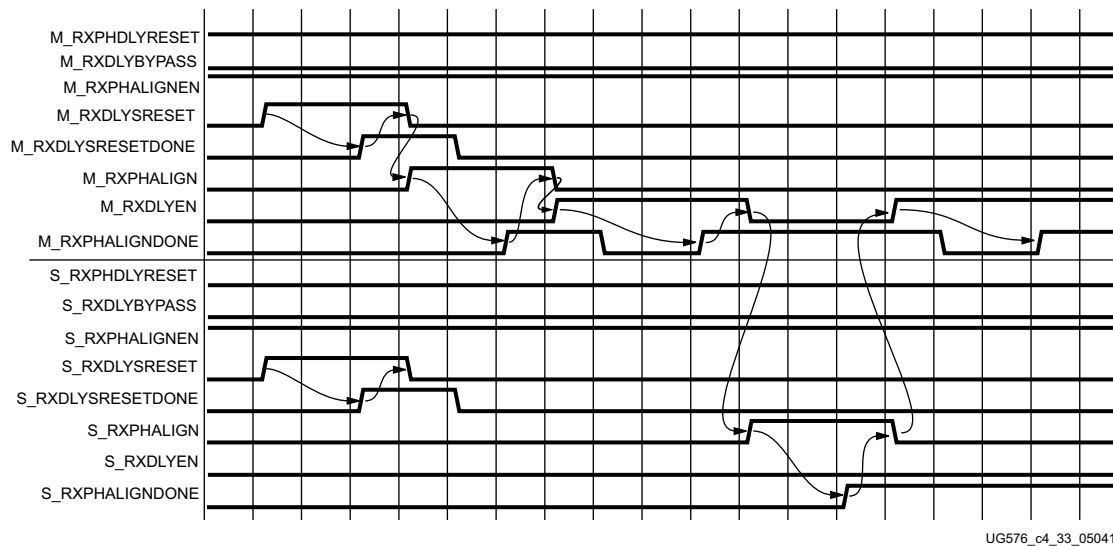

Figure 4-38: RX Phase and Delay Alignment in Manual Mode
Figure 4-38 shows the required steps to perform manual RX phase and delay alignment.
Notes relevant to Figure 4-38:
1. The sequence of events shown in Figure 4-38 is not drawn to scale.